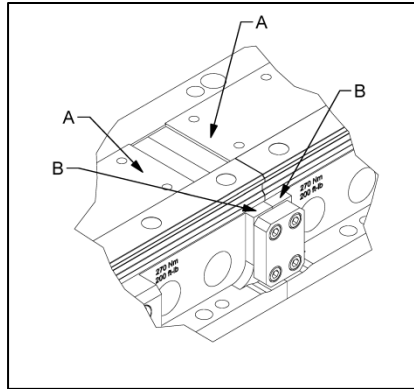

Figure 6
9. Attach a dial indicator with a magnetic base to one of the linear rails and check the alignment of the two "A" points, and the two "B" points as shown in Figure 6. The A points should be within 0.001 inch of each other, and the B points should also be within 0.001 inch of each other. If they are not, repeat steps 2 through 8.
9. Attach a dial indicator with a magnetic base to one of the linear rails and check the alignment of the two "A" points, and the two "B" points as shown in Figure 6. The "A" points should be within 0.001 inch of each other, and the "B" points should also be within 0.001 inch of each other. If they are not, repeat steps 10 through 15.